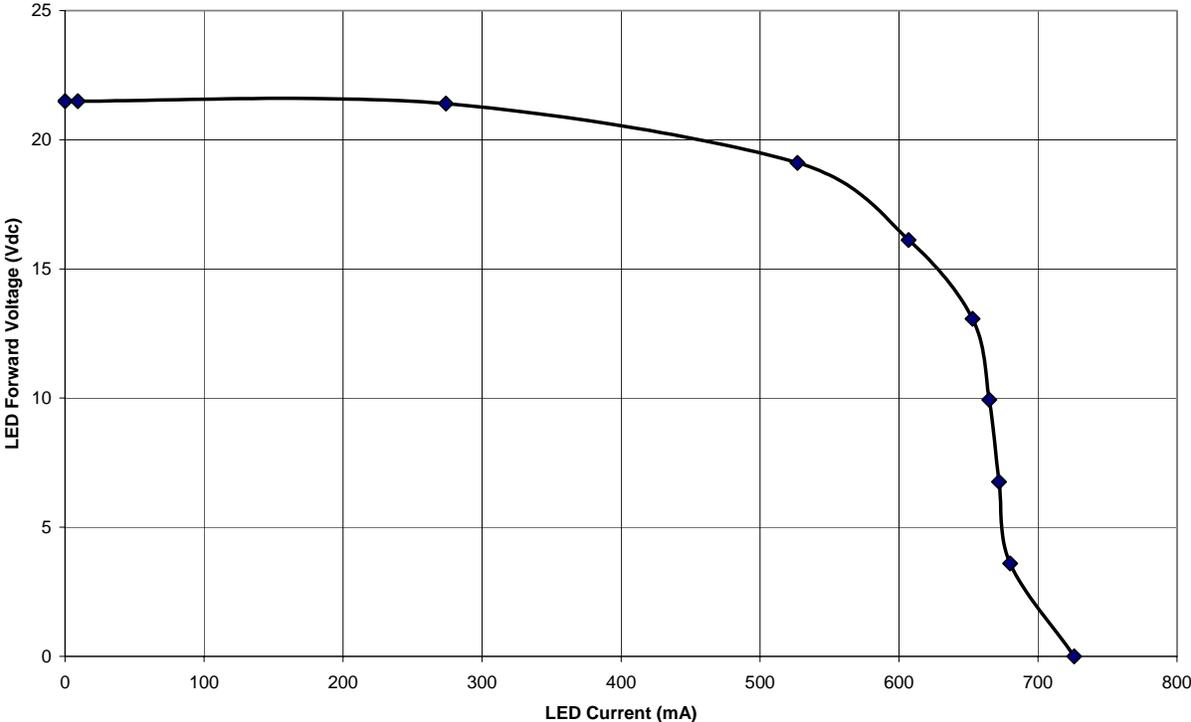

Figure 1
4. Adjust the electronic load from no load slowly up until the output voltage reduces to 12 to 13 volts. The output current should be within 600 to 710 mA. Figure 1 shows a typical voltage/current regulation curve for this driver operating at 115 Vac input. The output ripple on the oscilloscope should be less than 1 V peak-to-peak including spikes.
9. Adjust the AC input to 230 Vac and repeat tests (3) through (7).